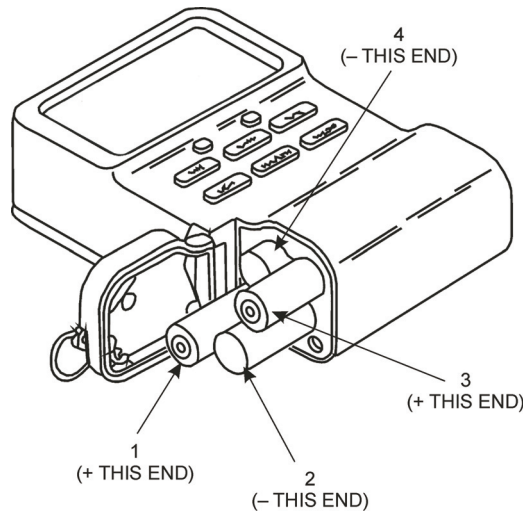

Figure 11 Location of the Batteries
- Install fresh batteries in the order shown in Figure 11.
**Be sure to observe the polarity** next to each of the four battery slots. The end of the battery facing out should match the slot's marked polarity, as shown in Figures 11 and 12.